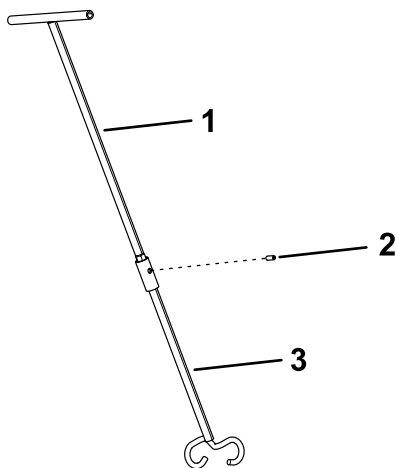

Figure 21
2. Secure the connection with a roll pin (Figure 21).